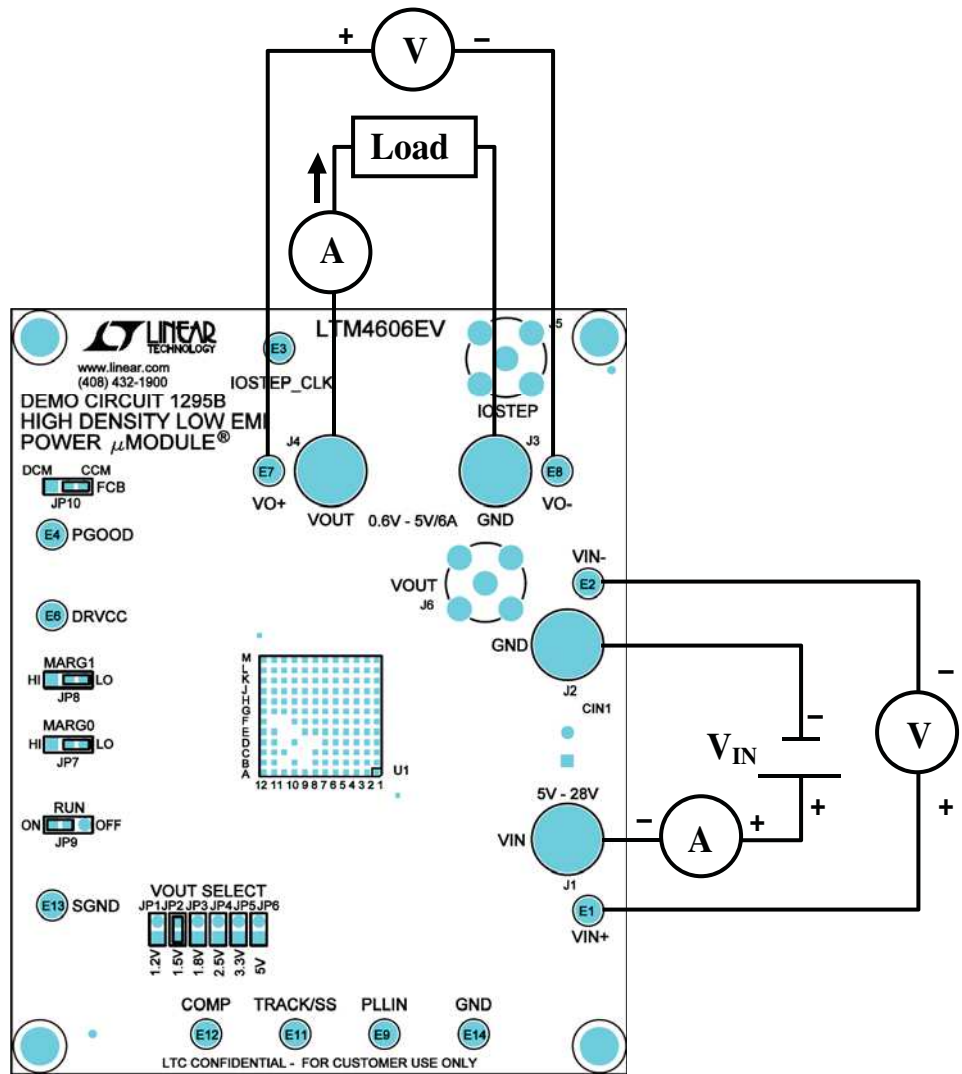

Figure 1. Test Setup of DC1295B
Demonstration circuit DC1295B is an easy way to evaluate the performance of the LTM4606EV. Please refer to Figure 1 for proper measurement equipment setup and follow the procedure below:
2. With power off, connect the input power supply, load and meters as shown in Figure 1. Preset the load to 0A and V_{IN} supply to be 12V.